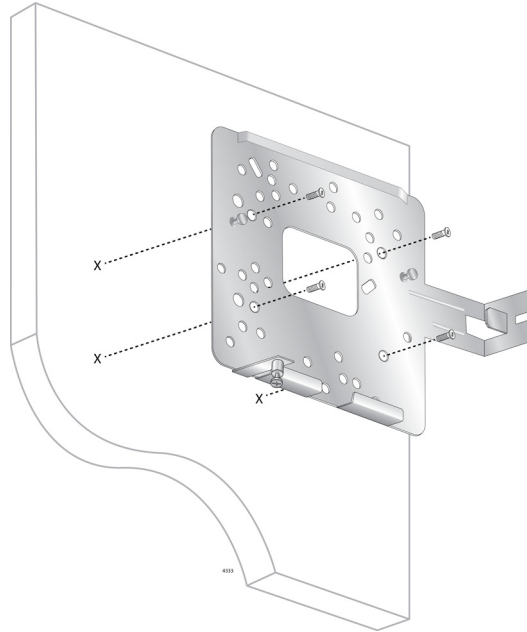

Figure 9. Installing the Mounting Base Plate on the Ceiling or Wall
4. Install the mounting base plate on the ceiling or wall as shown in Figure 9 on page 36.